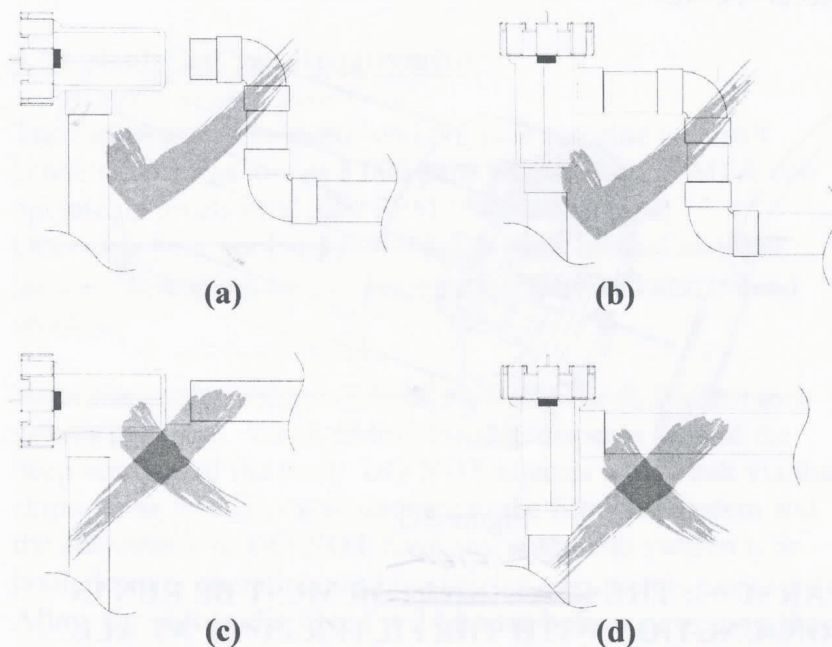

Figure 3.2
3.1 Purifier Cell (3)
Please refer to Figure 3.1 and Figure 3.2, it is recommended to install the electrolytic cell within 1.5 metres of a vertical wall or fence to allow the power pack to be easily mounted. The Cell must be installed such that a localised air pocket will form in the event that no water is flowing (see Figure 3.2). Any heaters or other equipment **MUST** be installed before the cell. Also note that the flow sensor (6) must always be positioned above the lowest part of the cell (3) to function effectively..